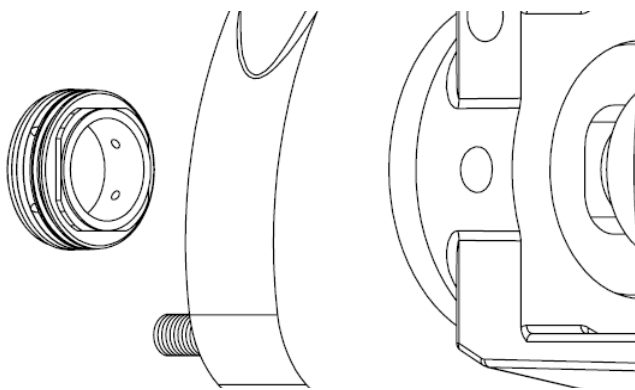

Figure 12
4. Note the square end of the stationary seal. Insert this end in first and slide the stationary seal over the shaft and into the casing, figure 12.